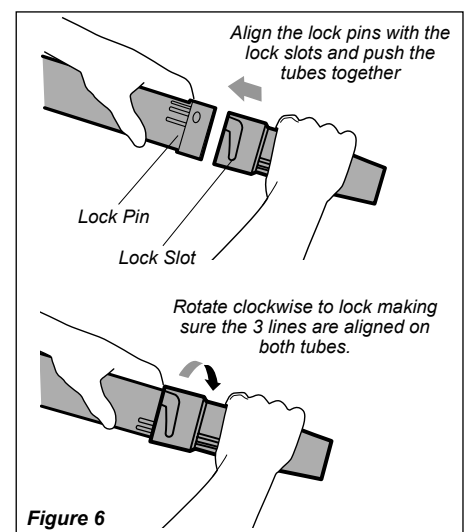

Figure 6
8. Grasp the straight tube, and push the straight tube over the swivel tube locking pins securing the static wire. See Figure 6.
9. Lock the straight tube to the swivel tube by rotating the straight tube noting the alignment marks. See Figure 6.
10. Grasp the nozzle, and push the nozzle over the straight tube locking pins. See Figure 6.
11. Lock the nozzle to the straight tube by rotating the nozzle noting the alignment marks. See Figure 6.